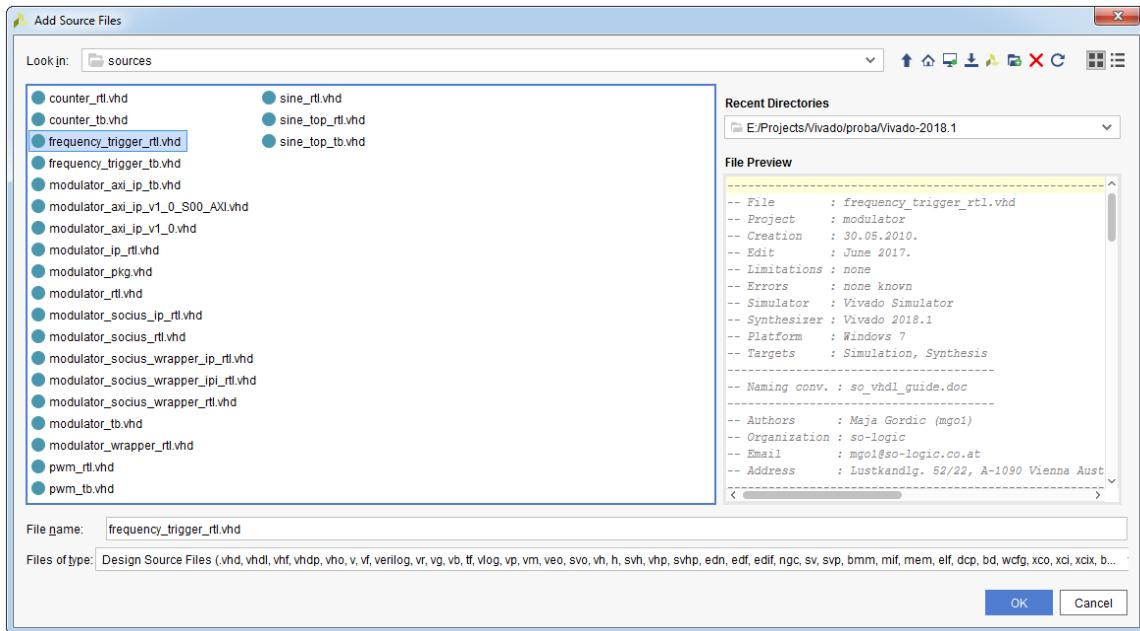

Figure 12.7: Add Source Files dialog box
6. In the **Add Source Files** dialog box, select **frequency_trigger_rtl.vhd** source file and click **OK**, see Figure 12.7.